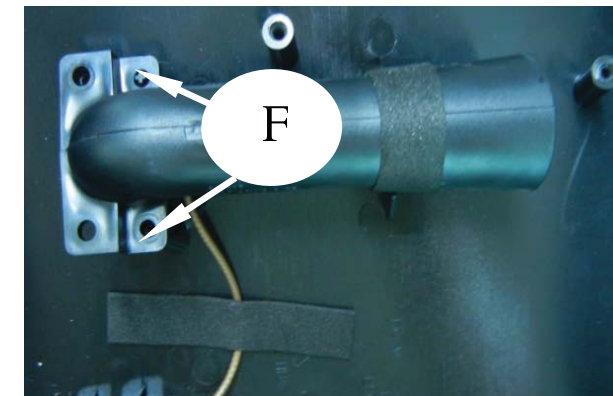

Figure 8
- 2) Loosen 2 screw "F" as shown in figure8 and loosen opposite 2 screw to detach soud pipes